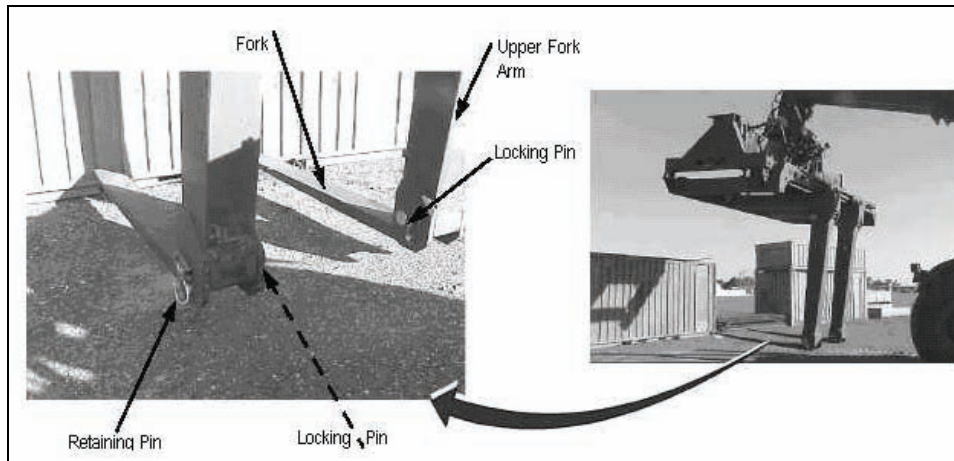

Figure 3-163. Installing Retaining Pins and Locking Pins
- o. Install retaining pins and locking pins to secure forks to upper fork arms (see Figure 3-163).